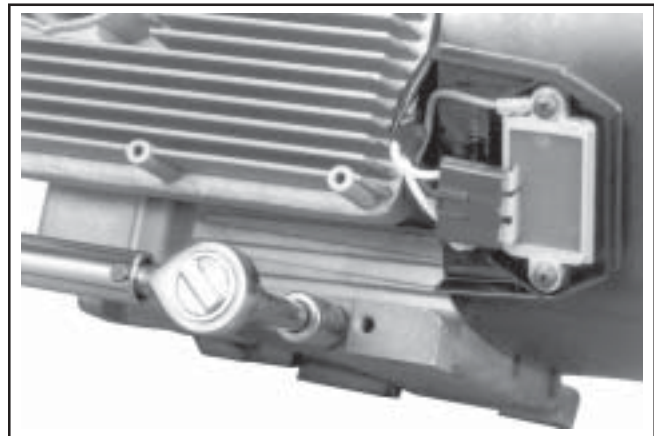

Figure 11-103. Reinstall and Torque Both Oil Drain Plugs.
4. Install the oil drain plugs. See Figure 11-103. Torque the plugs to 13.6 N·m (10 ft. lb.).